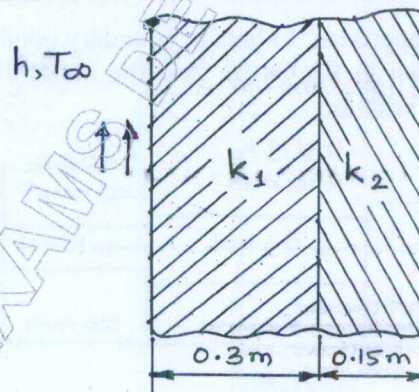

Fig.Q8(b)
b. A composite wall consists of two materials is as shown in Fig.Q8(b). The outer temperature is  $T_0 = 20^\circ\text{C}$ . Convection heat transfer takes place on the inner surface of the wall with  $T_\infty = 800^\circ\text{C}$  and  $h = 25 \text{ W/m}^2\cdot^\circ\text{C}$ . Determine the temperature distribution in the wall.